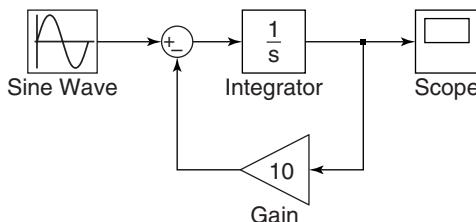

Figure 10.2–6 Simulink model for $\dot{y} = -10y + f(t)$.
1. You can use the model shown in Figure 10.2–2 by rearranging the blocks as shown in Figure 10.2–6. You will need to add a Sum block.
standard appearance shown in Figure 10.2–6, first extend the line vertically down from the Sum input port. Release the mouse button, and then click on the end of the line and attach it to the Gain block. The result will be a line with a right angle. Do the same to connect the input of the Gain block to the arrow connecting the Integrator and the Scope blocks. A small dot appears to indicate that the lines have been successfully connected. This point is called a *takeoff point* because it takes the value of the variable represented by the arrow (here, the variable y) and makes that value available to another block.